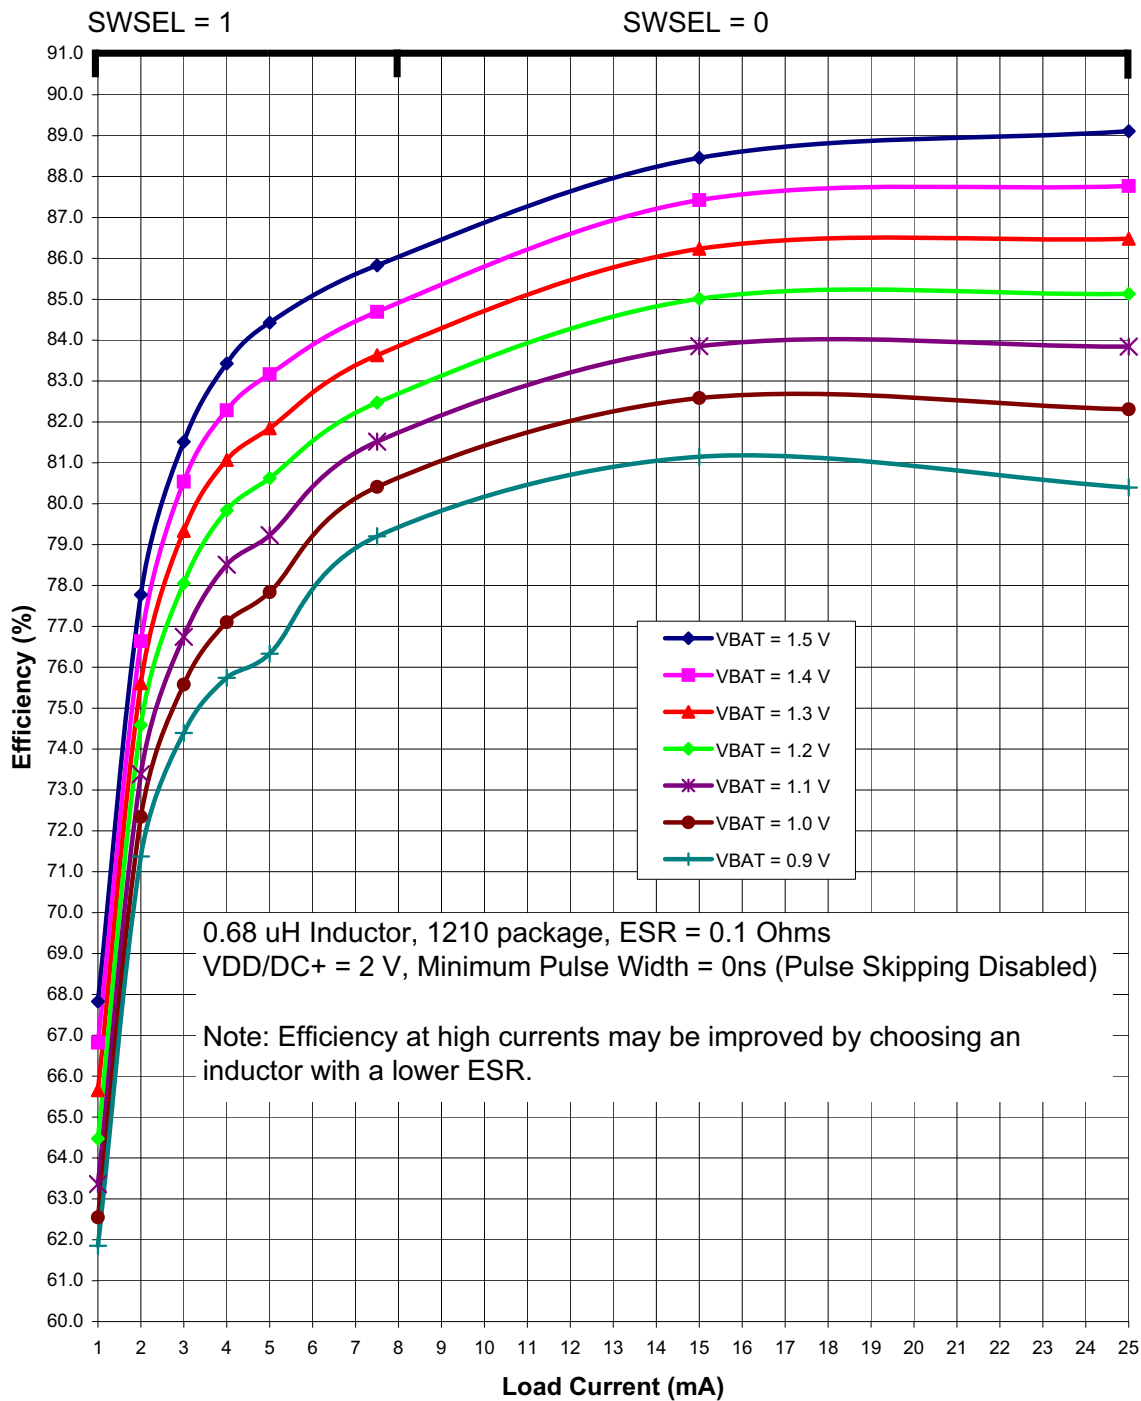
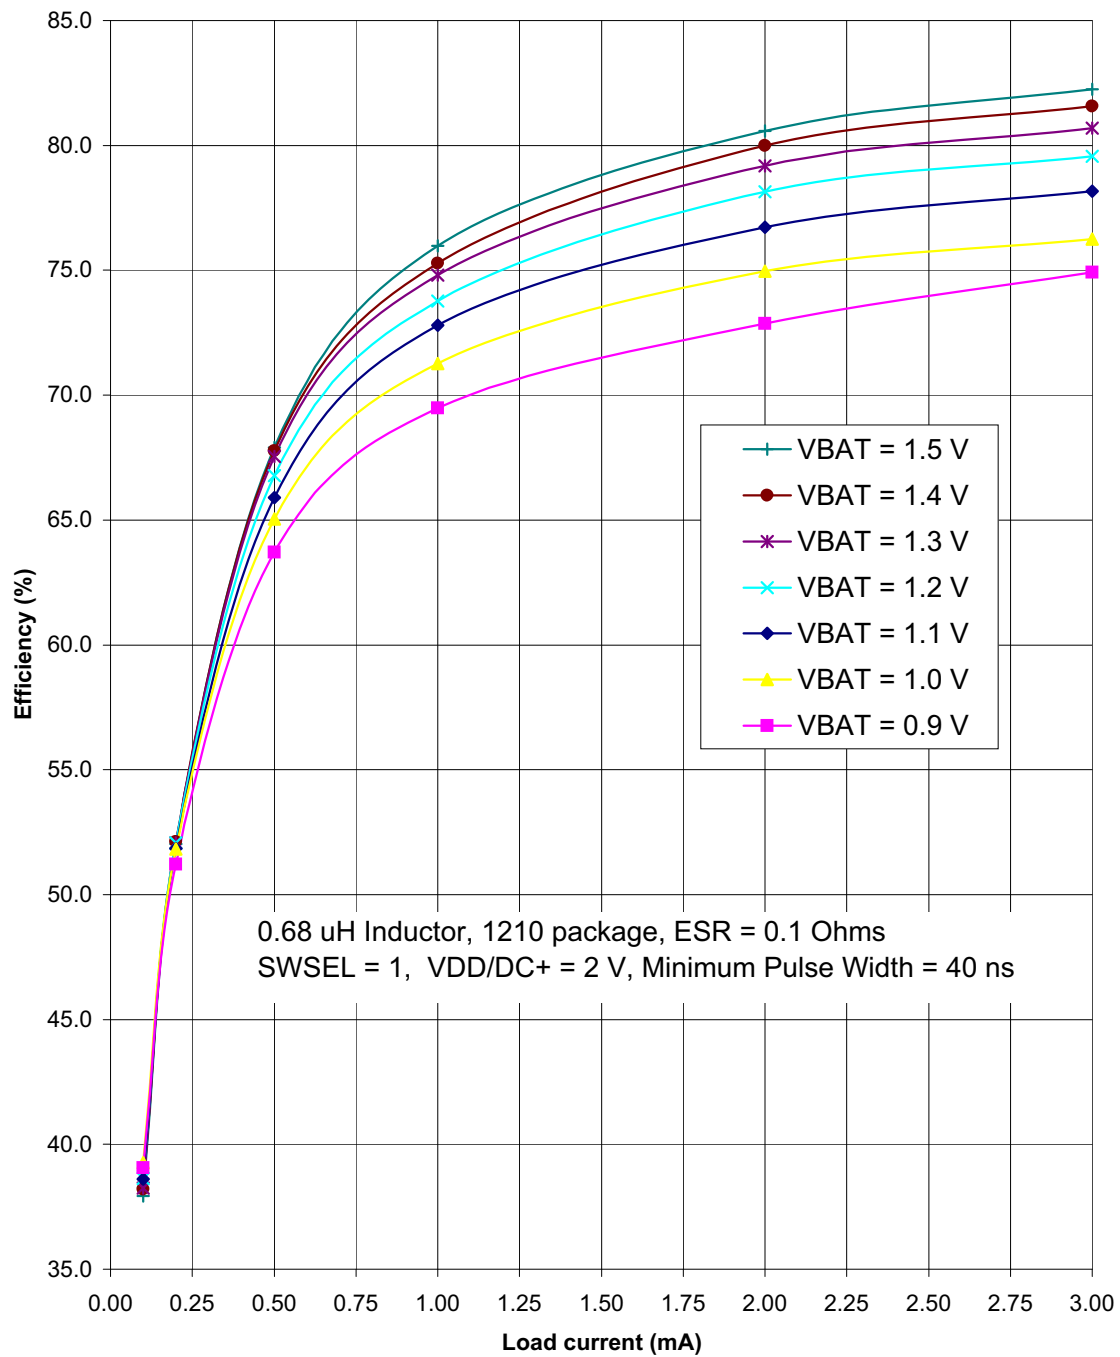

Figure 4.3. Typical DC-DC Converter Efficiency (High Current, VDD/DC+ = 2 V)
Figure 4.5. Typical DC-DC Converter Efficiency (Low Current, VDD/DC+ = 2 V)
Notes: <ol style="list-style-type: none"> <li>Based on device characterization data; Not production tested.</li> <li>SYSCLK must be at least 32 kHz to enable debugging.</li> <li>Digital Supply Current depends upon the particular code being executed. The values in this table are obtained with the CPU executing an "sjmp \$" loop, which is the compiled form of a while(1) loop in C. One iteration requires 3 CPU clock cycles, and the flash memory is read on each cycle. The supply current will vary slightly based on the physical location of the sjmp instruction and the number of flash address lines that toggle as a result. In the worst case, current can increase by up to 30% if the sjmp loop straddles a 128-byte flash address boundary (e.g., 0x007F to 0x0080). Real-world code with larger loops and longer linear sequences will have few transitions across the 128-byte address boundaries.</li> <li>Includes oscillator and regulator supply current.</li> <li>IDD can be estimated for frequencies <math>\leq 10</math> MHz by simply multiplying the frequency of interest by the frequency sensitivity number for that range, then adding an offset of 90 <math>\mu</math>A. When using these numbers to estimate <math>I_{DD}</math> for <math>&gt;10</math> MHz, the estimate should be the current at 25 MHz minus the difference in current indicated by the frequency sensitivity number. For example: <math>V_{DD} = 3.0</math> V; <math>F = 20</math> MHz, <math>I_{DD} = 4.1</math> mA – <math>(25 \text{ MHz} - 20 \text{ MHz}) \times 0.120 \text{ mA/MHz} = 3.5</math> mA.</li> <li>The Supply Voltage is the voltage at the VDD_MCU pin, typically 1.8 to 3.6 V (default = 1.9 V). Idle IDD can be estimated by taking the current at 25 MHz minus the difference in current indicated by the frequency sensitivity number. For example: <math>V_{DD} = 3.0</math> V; <math>F = 5</math> MHz, Idle <math>I_{DD} = 2.5</math> mA – <math>(25 \text{ MHz} - 5 \text{ MHz}) \times 0.095 \text{ mA/MHz} = 0.6</math> mA.</li> <li>The supply current specifications in Table 4.2 are for two cell mode. The VBAT current in one-cell mode can be estimated using the following equation:  <math display="block">\text{VBAT Current (one-cell mode)} = \frac{\text{Supply Voltage} \times \text{Supply Current (two-cell mode)}}{\text{DC-DC Converter Efficiency} \times \text{VBAT Voltage}}</math> <p>The VBAT Voltage is the voltage at the VBAT pin, typically 0.9 to 1.8 V.  The Supply Current (two-cell mode) is the data sheet specification for supply current.  The Supply Voltage is the voltage at the VDD/DC+ pin, typically 1.8 to 3.3 V (default = 1.9 V).  The DC-DC Converter Efficiency can be estimated using Figure 4.3–Figure 4.5.</p> </li> <li>The EZRadioPRO peripheral is placed in Shutdown mode.</li> </ol>